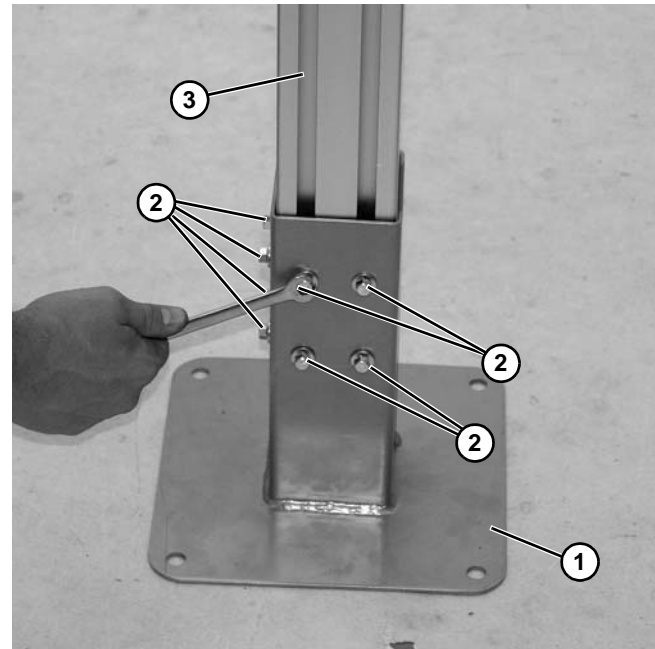

Figure 7
2. To adjust stand foot (Figure 7, item 1), loosen eight socket head screws (Figure 7, item 2) and adjust stand legs (Figure 7, item 3) up or down to the required height. If necessary, adjust height of each leg support until conveyor is level from side to side.
<p>Failure to secure screws (Figure 7, item 2) may cause conveyor sections to drop down causing severe injury.</p> <p>TIGHTEN SCREWS (Figure 7, item 2) AFTER ADJUSTMENT.</p>
3. Tighten four flange socket head screws (Figure 7, item 2) to 24 ft-lb (33 N-m).